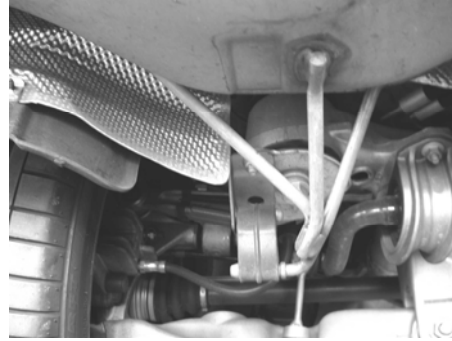

Figure 4
4. Lubricate all hangers and rubber brackets as the one shown in figure 4.